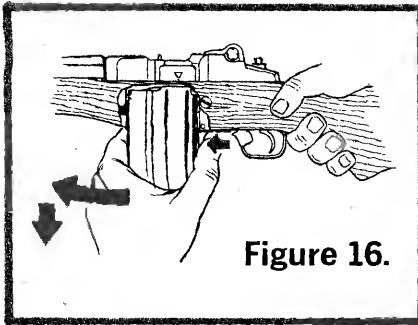

Figure 16.
2. Remove the magazine (Figure 16).